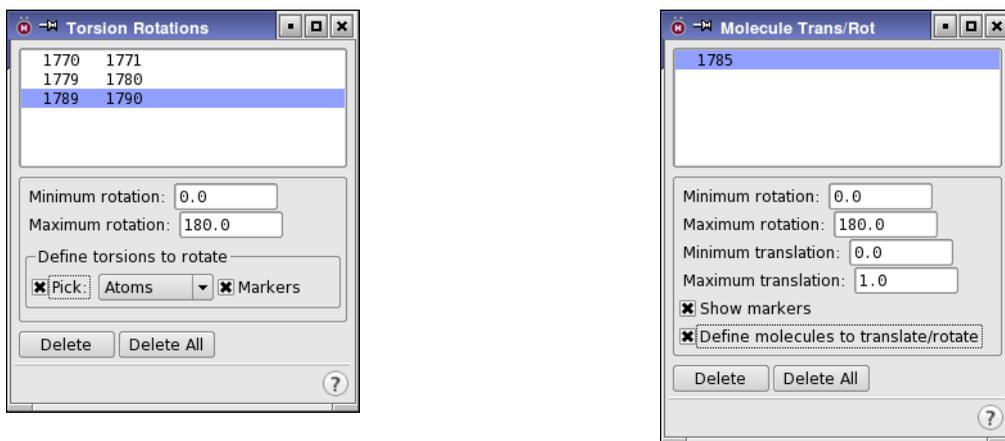

Figure 4.3. The Torsion Rotations panel (left) and the Molecule Trans/Rot panel (right).
10. In the CSearch tab, from the Search variables option menu choose Torsion Rotations, then click Edit, to open the Torsion Rotations panel (see Figure 4.3).
13. In the CSearch tab, from the Search variables option menu choose Molecule Trans/Rot, then click Edit, to open the Molecule Trans/Rot panel (see Figure 4.3).